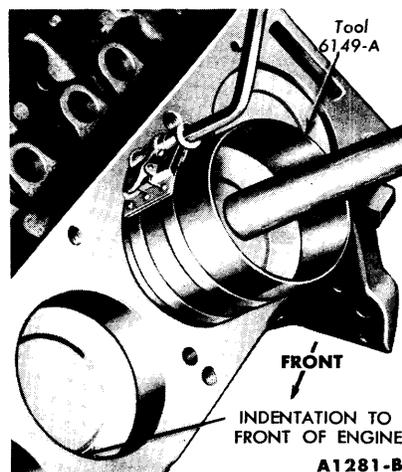

FIG. 60—Piston Installation
4. Install a piston ring compressor on the piston and push the piston in with a hammer handle until it is slightly below the top of the cylinder (Fig. 60). Be sure to guide the connecting rods to avoid damaging the crankshaft journals. **Install the piston with the indentation in the piston head toward the front of the engine.**